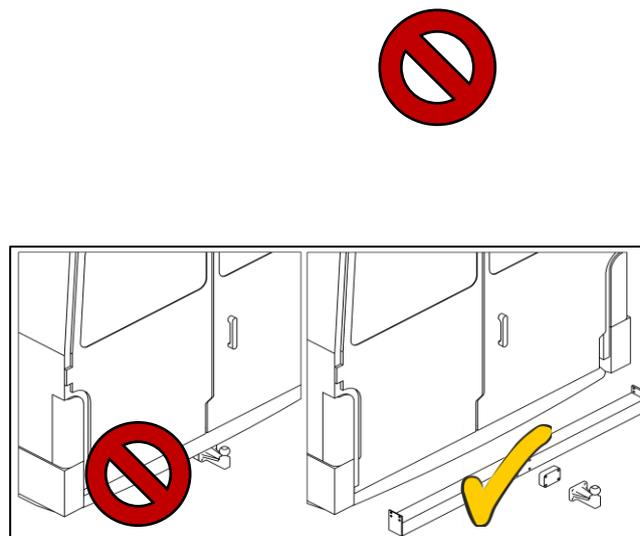

Fig. 10
- If a trailer hitch or step is mounted on the vehicle, remove it (see Fig. 10).